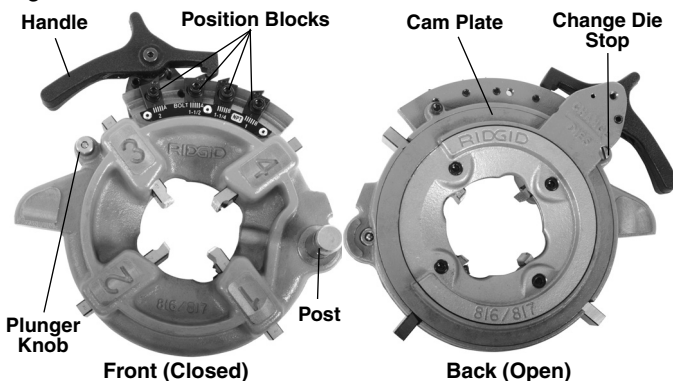

Figure 1 – Semi-Automatic Die Head
2. Depress handle so that cam plate rests against the change die stop (*Figure 1*). The cam plate/handle assembly is spring loaded and will move when depressed.